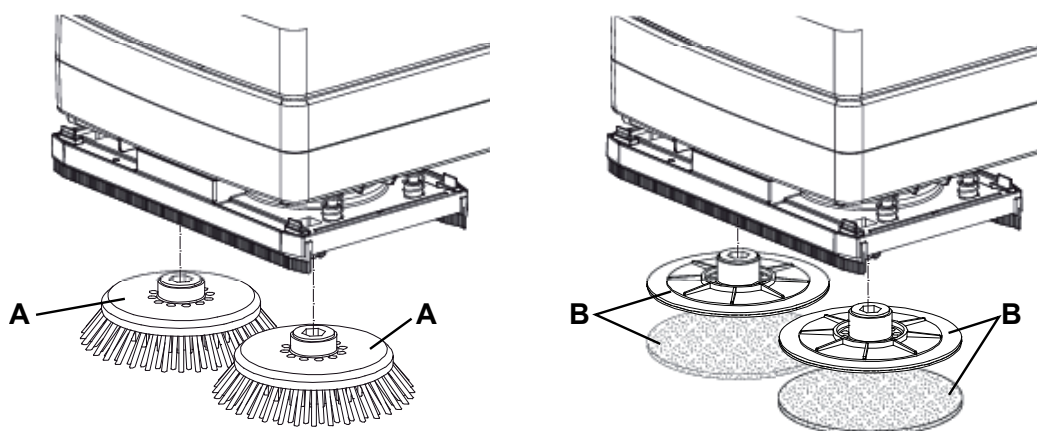

Figure 1
The machine is supplied with two brushes (A, Fig. 1) installed. According to the type of floor to be cleaned, it is possible to replace the brushes (A) with the pad-holders with pads (B).
1. Lift the machine by prying the handlebar (2).
2. Install the brushes (A, Fig. 1), or the pad-holders with pads (B), in the 2 hubs of the deck (9).
3. Lower the machine by using the handlebar (2).